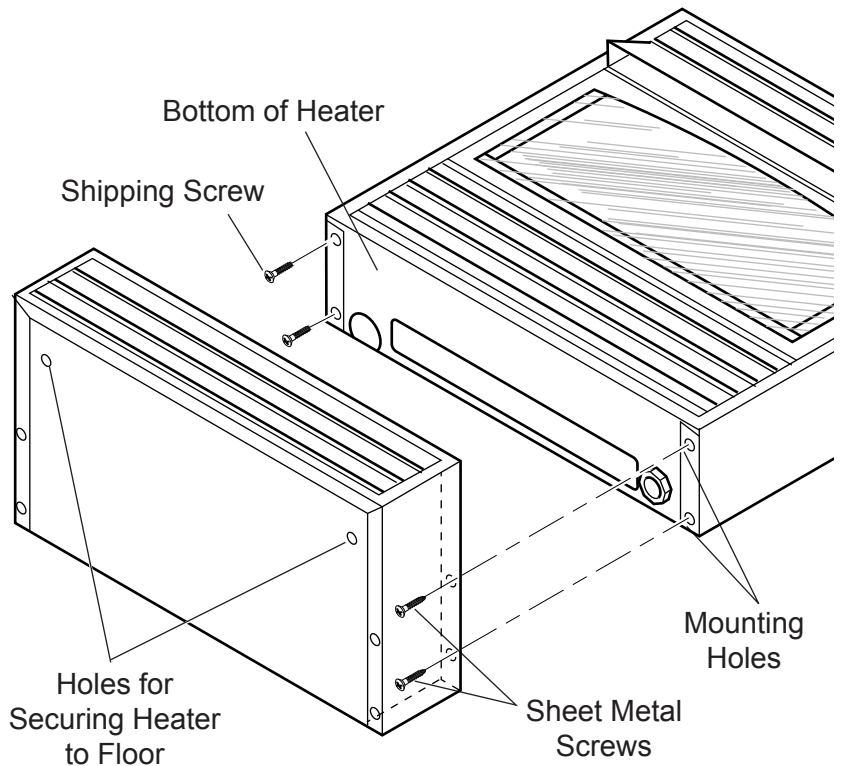

Figure 11 - Attaching Heater to Hearth Base
3. Line up mounting holes on top of hearth base with holes in bottom of heater (*see Figure 11*).
4. Using a Phillips screwdriver, secure hearth base to heater with four sheet metal screws (*see Figure 11*).
1. Position hearth base in desired location. Mark holes for drilling (*See Figure 11*). Remove hearth base.